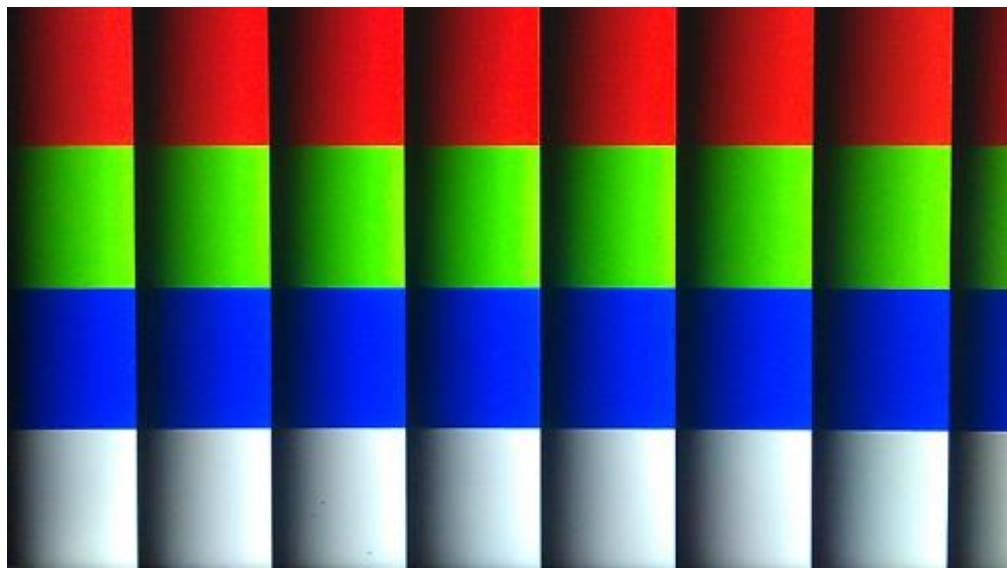

Figure 7-4 The Video pattern used in the HDMI TX Demonstration
- Wait for a few seconds for the LCD monitor to power up itself. And you should see a pre-defined video pattern shown on the monitor, as shown in Figure 7-4.